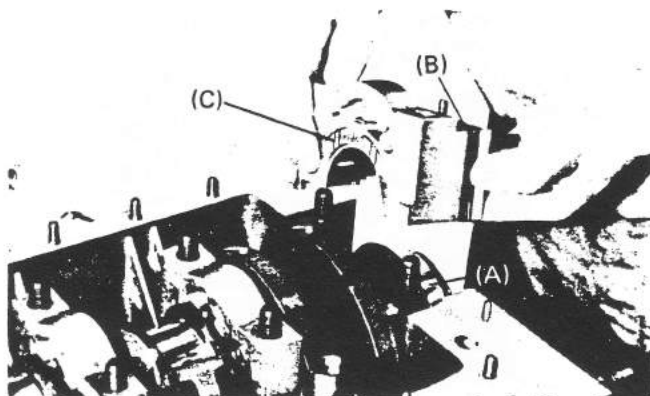

Fig. 112
- d. Apply graphite grease to the lip of the oil seal (A) and fit it to the rear of the crankshaft.
- e. Insert the side seals (B) into the grooves at both sides of the No. 5 main bearing cap. Then fit the thrust washers (C) to the cap (Fig. 112) and install the cap to the cylinder block and crankshaft.